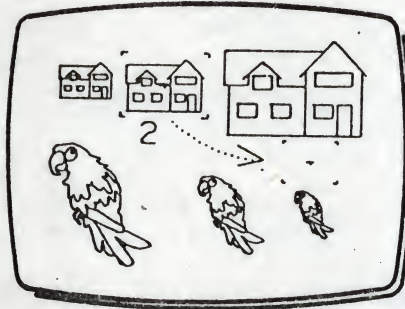

Fig 3
- 4 Press and release T when you have marked a unit you wish to move, the frame stops flashing, and a second cursor frame appears carrying (invisibly!) the marked library unit, as in Fig 3.